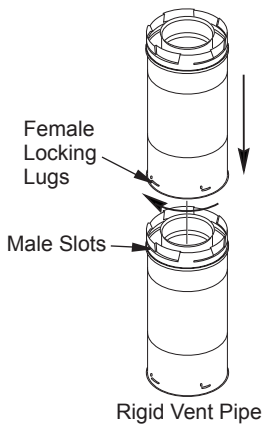

Figure 17 - Vent Pipe Connections
Twist-lock Procedure: Female ends of pipes and fittings have four locking lugs (indentations). These lugs will slide straight into matching slots on male ends of adjacent pipes and fittings. Push pipe sections together and twist one section clockwise approximately one-quarter turn until sections are fully locked. See Figure 17. *Note: Horizontal runs of vent must be supported every three feet. Use wall straps for this purpose.*
2. Assemble desired lengths of pipe and elbows necessary to reach from fireplace flue up through firestop. Be sure all pipe and elbow connections are fully twist-locked (see Figure 17, page 14).